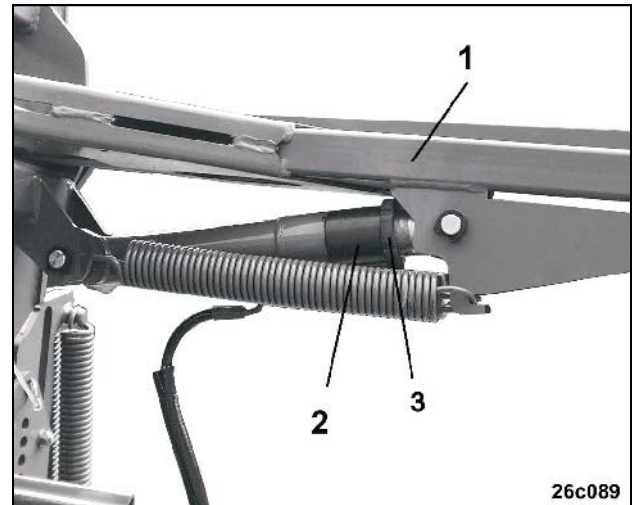

Fig. 103
- Slacken the counter nut (Fig. 103/3)
- Turn stop nut (Fig. 103/2) until the main track marker arm (Fig. 103/1) has reached a horizontal position.
- Secure setting by using a counter nut (Fig. 103/3).